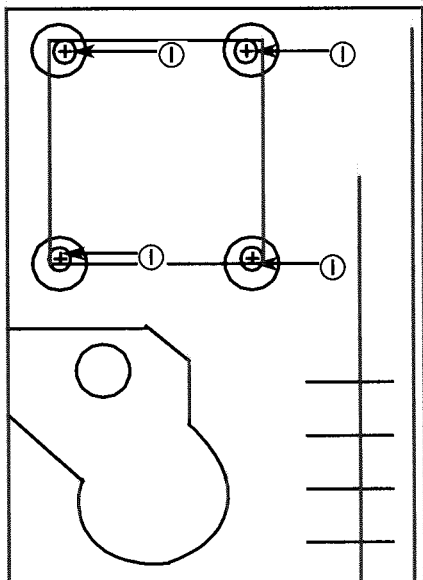

Fig9 Mech. bottom side
2. Release the shaft to remove the pickup (Fig 9).